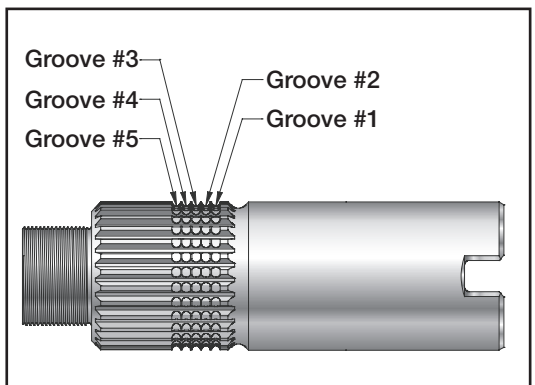

Figure 1
4. Install the snap ring into the appropriate groove (see Table 1 and Figure 1).